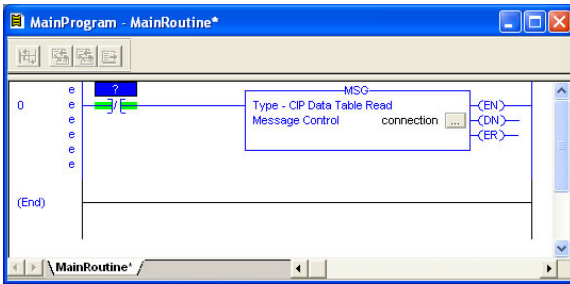

Figure 107: MainRoutine
- e) Click "OK" to close the MSG Configuration dialog. At this stage, MainRoutine should look like Figure 107.